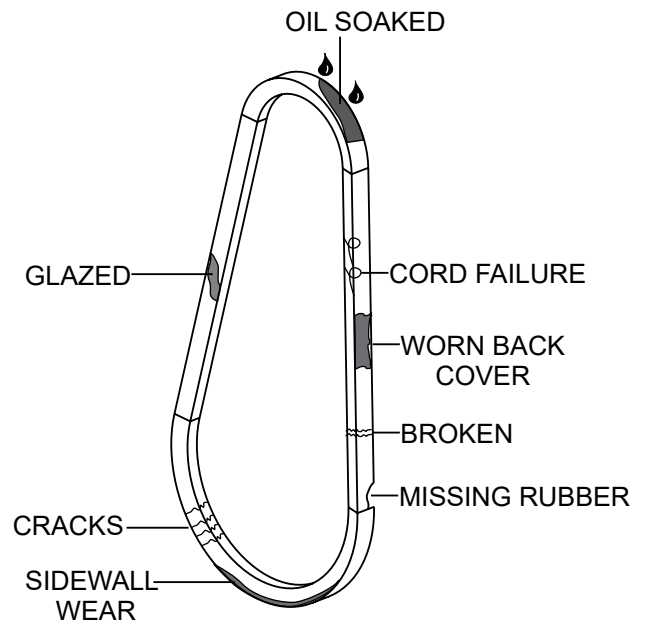

Figure 6. V-Belt Check
1. Visually check the V-belt condition. If there are cracks, wears and any other damages on the V-belt, replace the V-belt with a new one as required (Figure 6).